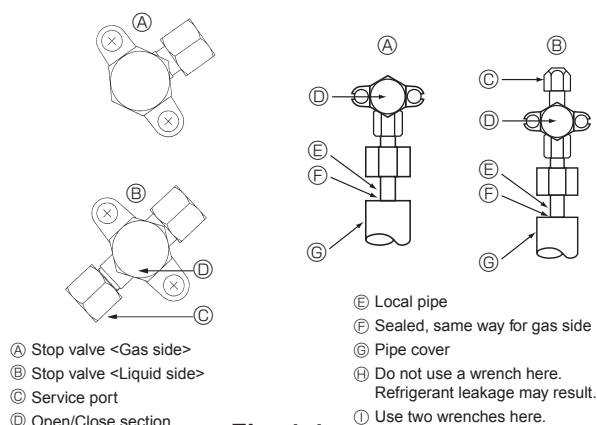
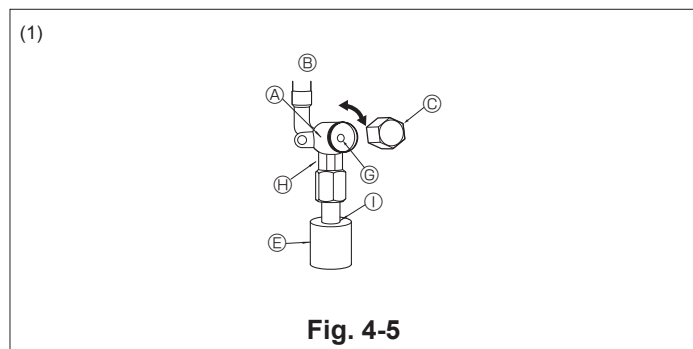

Fig. 4-4
Fig. 4-5
4.4. Refrigerant pipe airtight testing method (Fig. 4-4)
- If the pressure decreases in steps (2) or (3), there is a gas leak. Look for the source of the gas leak.
- Gas side (Fig. 4-5)